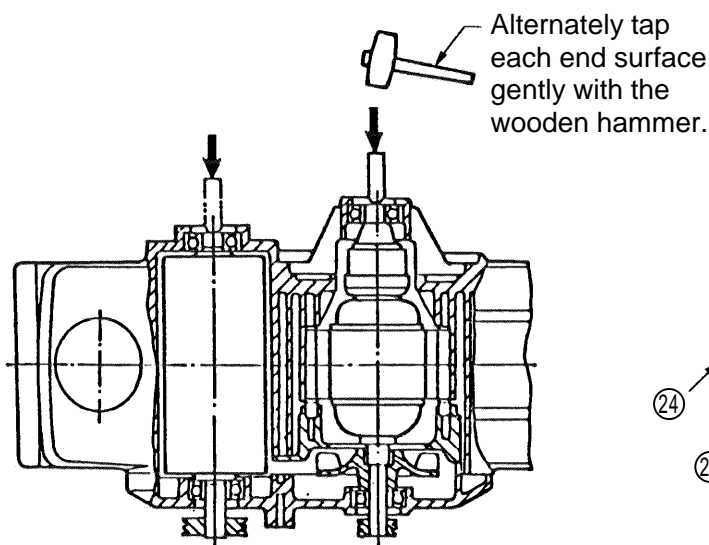

Fig. 6
### (3) Removal of the Armature and Cutter Block: (Figs. 6 & 7)
- Loosen and remove the four D4 x 20 Tapping Screws (27) which fix the End Bracket (26).
- As illustrated in Fig. 6, alternately hold a plastic rod with a diameter of approximately 8 mm against the end surface of the shaft of the Armature (28) and the spindle of the Cutter Block (13), and alternately tap each of them gently with a wooden hammer to remove little by little the End Bracket (26), Armature (28) and Cutter Block (13) in a single body. The Fan Guide Ass'y (29) will also be removed at this time.